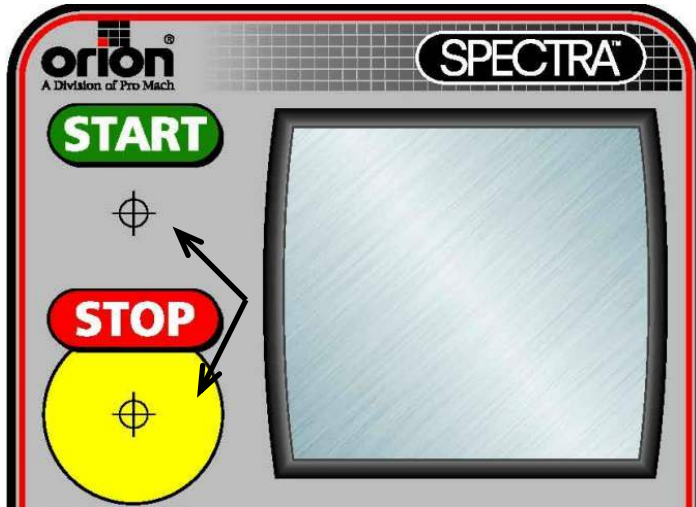

Figure 1
The START switch is used to start the cycle once the load is on the turntable. The cycle may be stopped at anytime by pressing the STOP button. (see **Figure 1**)
6. Pass the roped tail of the film through opening (as shown on the film quick threading pattern DWG. # 418180 Fig.1).